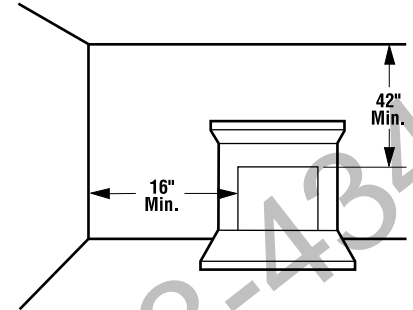

Figure 1
Note: Illustrations shown in this manual reflect "typical" installations with nominal dimensions and are for reference only. Actual installations may vary due to individual design preferences. However, always maintain minimum clearances to combustible materials and do not violate any specific installation requirements. Refer to Figures 1 through 7 for clearances.
Ensure the minimum clearances shown in Figures 1 through 7 are maintained. Left and right clearances are determined when facing the front of the appliance.
Step 1. Sidewall Clearances: The sides of the fireplace opening must be at least 16" from any combustible side wall (Figure 1).
Step 2. Ceiling Clearance: The ceiling must be at least 42" from the top of the appliance opening (Figure 1).